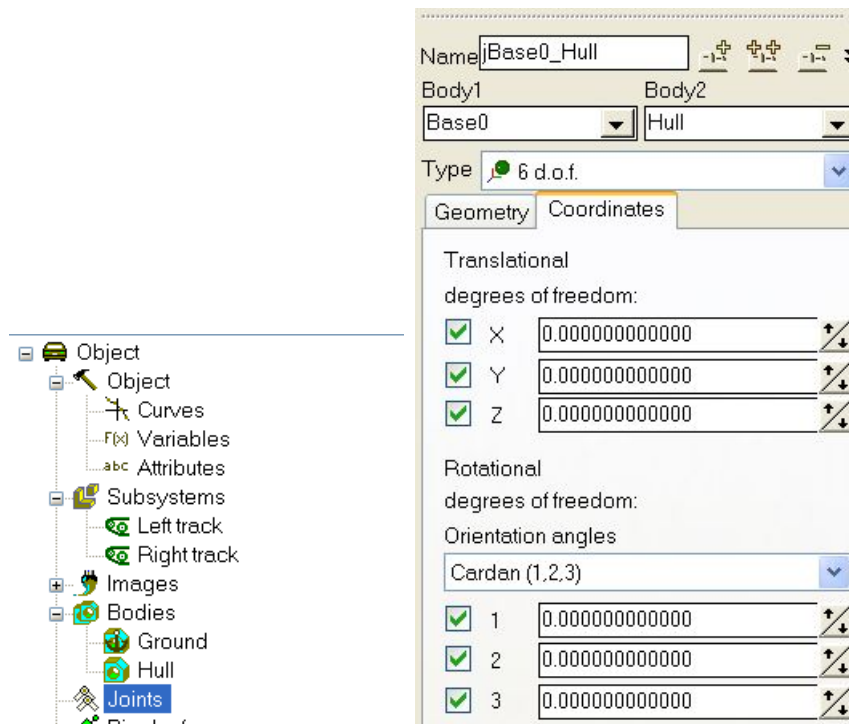

Fig. 29 Adding a joint for hull
- select the Joints item in the list of elements, Fig. 29;
Remark 2. As it is known, any three orientation angles have a singular position. For instance, the Euler angles are singular for zero values of coordinates, and these angles practically do not used in technical applications. We do not recommend the user to use the angles, which are singular at zeroes, i.e. angles corresponding to sequences of rotations in which the first and the third rotations axis are of the same name: are 3, 1, 3; 1, 2, 1 and so on. In the example in Fig. 29, we have assigned the Cardan angle with the sequence of rotations 1, 2, 3, which are singular for the second rotation angle (rotation about the Y-axes) equal to 90 degrees, i.e. in fact by the overturning of the TV. As well, it is recommended to use the angles 3, 1, 2 (yaw, pitch, and roll angles).